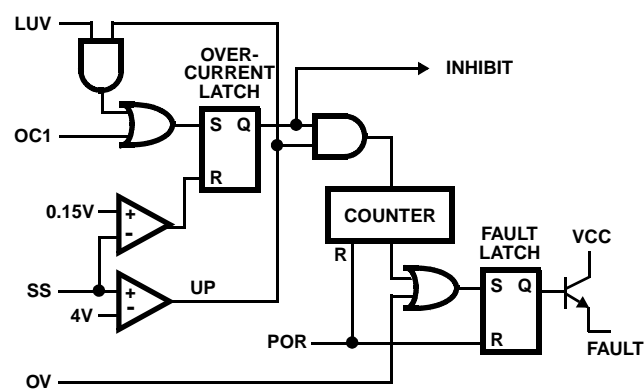

FIGURE 4. FAULT LOGIC - SIMPLIFIED SCHEMATIC
Figure 4 shows a simplified schematic of the fault logic. An over-voltage detected on VSEN1 immediately sets the fault latch. A sequence of three over-current fault signals also sets the fault latch. The over-current latch is set dependent upon the states of the over-current (OC), linear under-voltage (LUV) and the soft-start signals. A window comparator monitors the SS pin and indicates when C_{SS} is